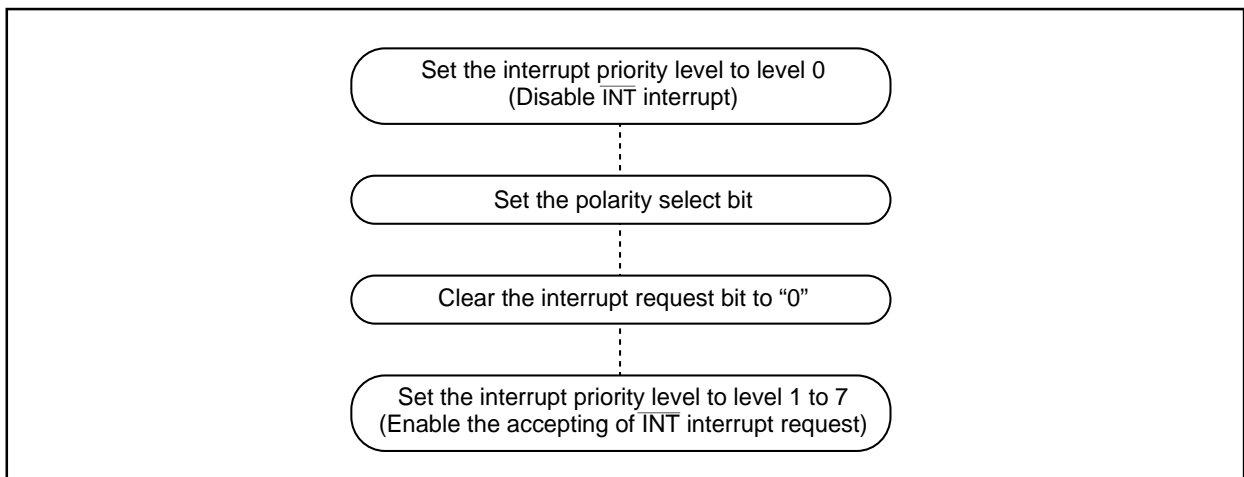

Figure 27.2 Switching condition of \overline{INT} interrupt request
- When the polarity of the INT0 to INT5 pins is changed, the interrupt request bit is sometimes set to "1". After changing the polarity, set the interrupt request bit to "0". Figure 27.2 shows the procedure for changing the \overline{INT} interrupt generate factor.